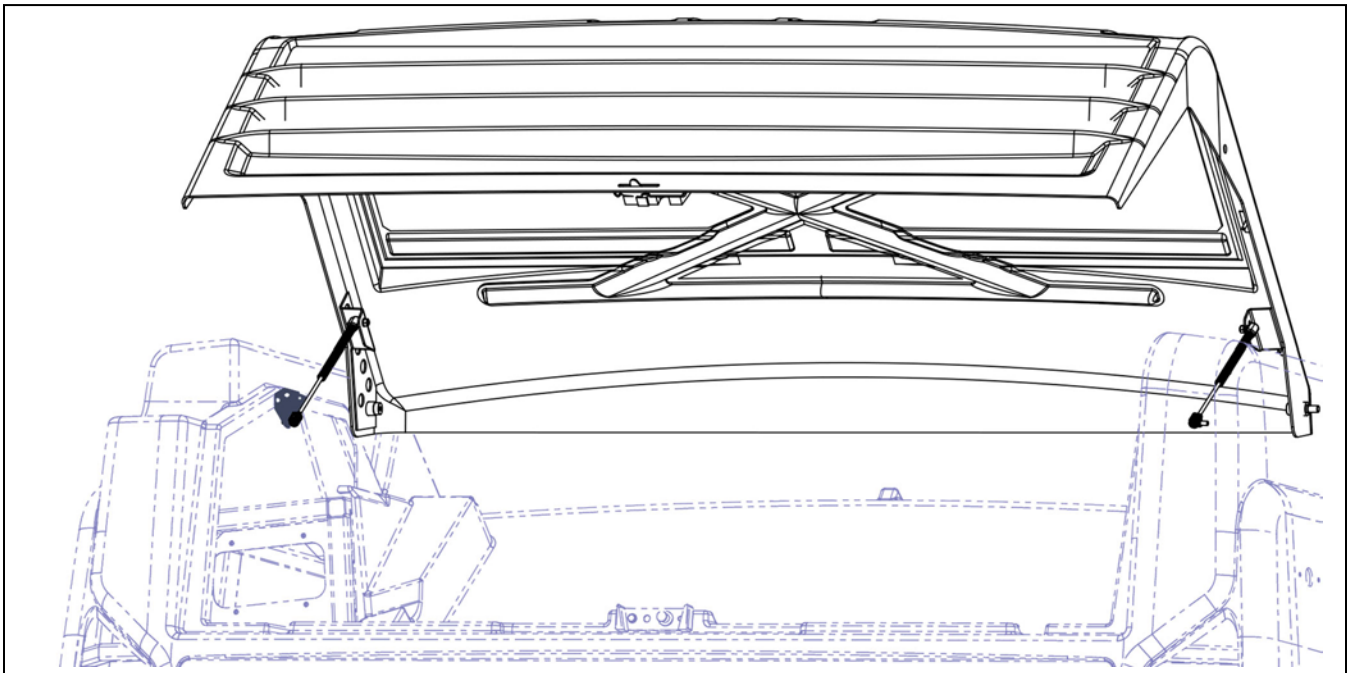

Figure 1 - Radiator Access Door
- 1.1. Open the radiator access door. See Figure 1.